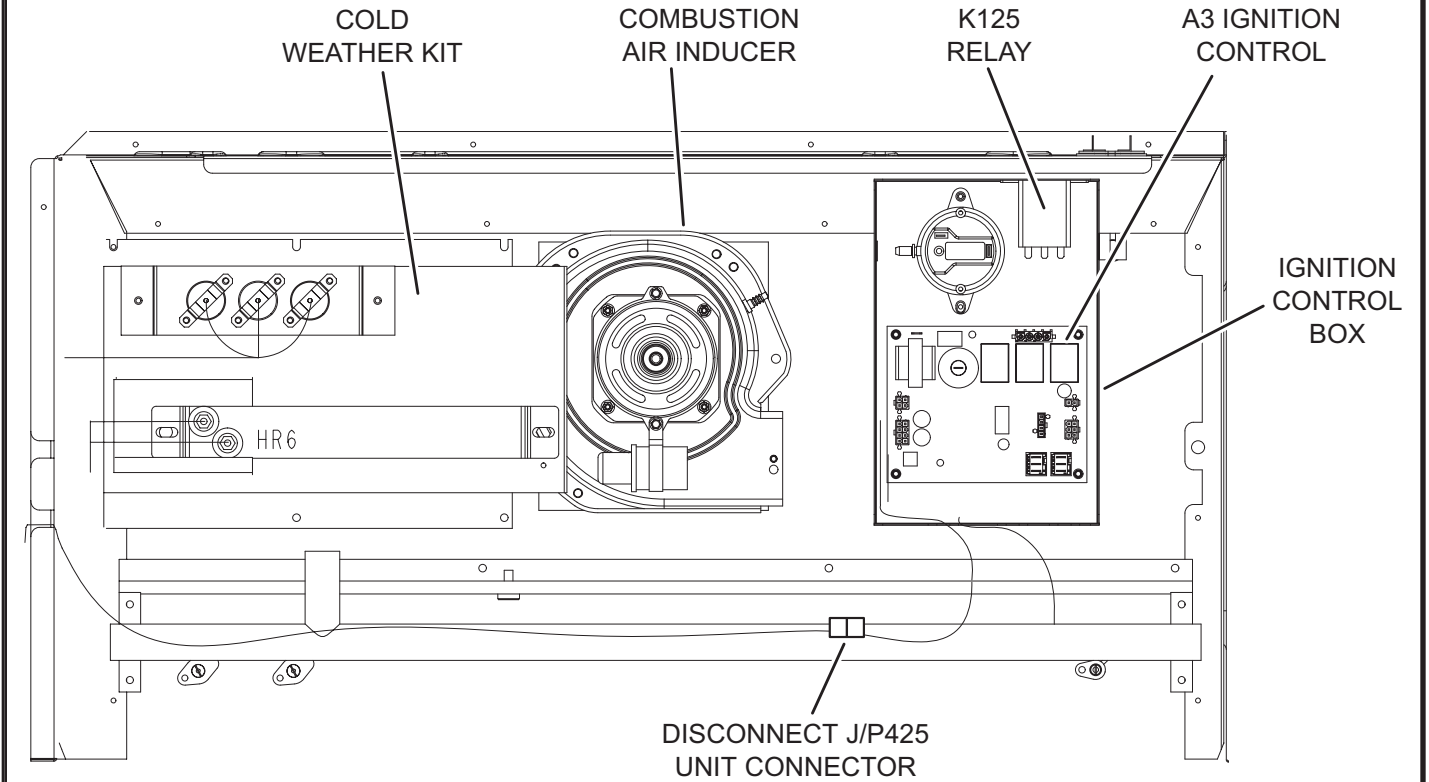

FIGURE 10
- 4 - Install heater assembly in heat section as shown in figure 10. Use existing screws.
- 5 - Remove ignition control cover and install K125 as shown in figure 10. Secure with #8 screws provided in kit.
- 6 - Disconnect unit J/P425 connectors. See figure 10. Connect power harness J/P228 to J/P425. See figure 11.